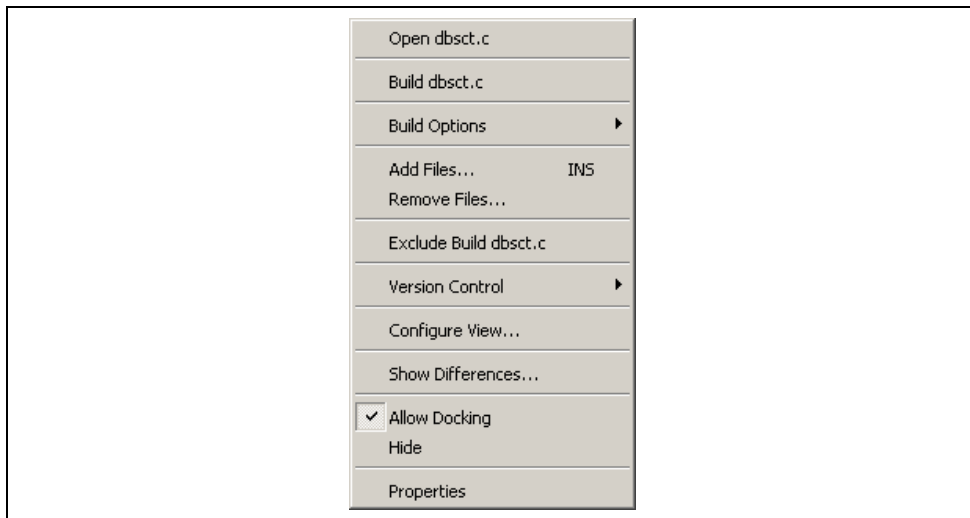

Figure 2.3: Projects Tab Pop-up Menu
1. Select [**Project->Add Files...**], or click the right mouse button on a project icon in the “Projects” tab of the “Workspace” window and select [**Add Files...**] from the pop-up menu (see figure 2.3), or press **INS** when the “Workspace” window is selected.